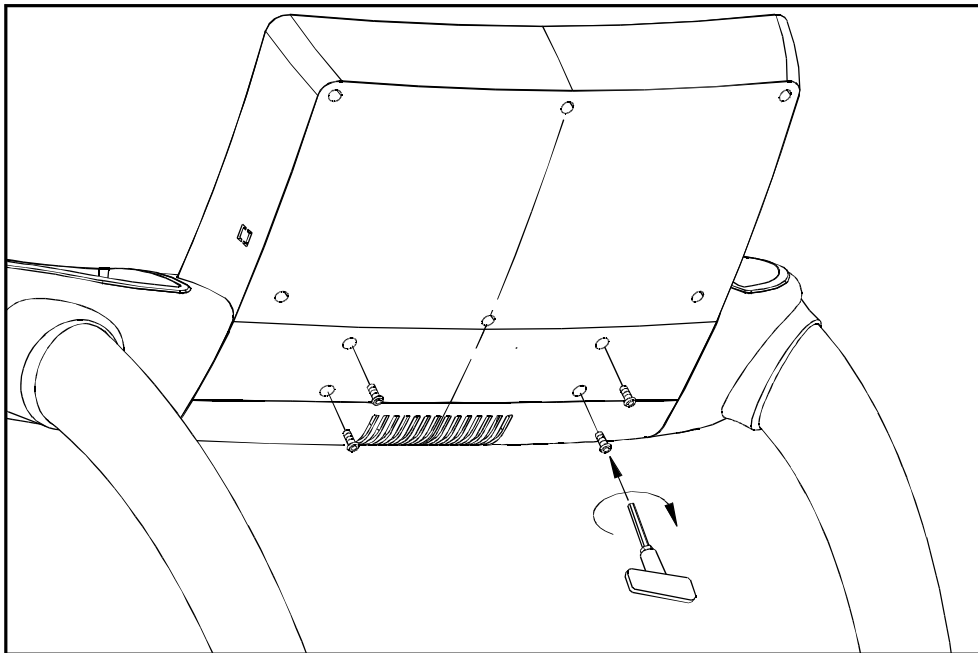

Fig.9
**STEP 4.** Use the HEX ALLEN WRENCH WITH THE T-SHAPED HANDLE (5 mm) to secure the display with the bolts as shown below. (See Fig. 9.)